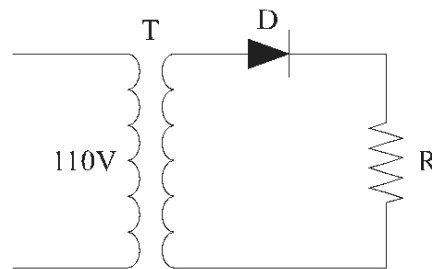

Figure 7-1-1. Half-wave rectifier circuit.
1. Assemble the circuit shown in figure 7.1.1